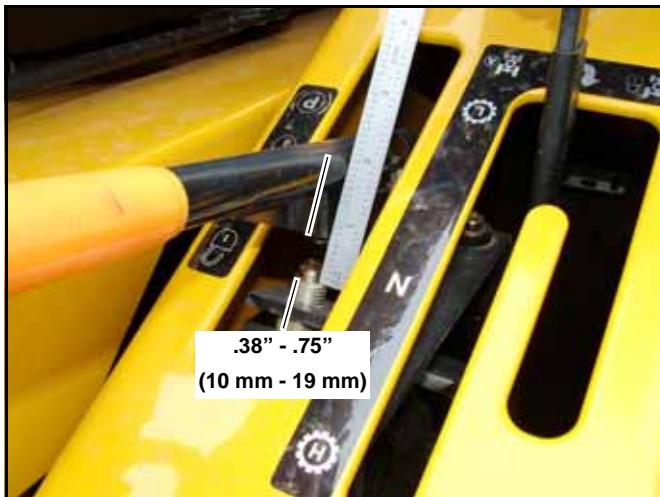

Figure 4-33
The park brake must be adjusted when there is less than 0.38 in. (10mm) or more than 0.75 in. (19mm) of free play in the park brake lever (Figure 4-33), the park brake is dragging, or the park brake is not working effectively.
2. Check the park brake lever free travel distance: With the park brake lever all the way down (Off), pull the lever up until you notice resistance from brake engagement - measure this distance as shown in Figure 4-33. This free play distance should be 0.38 in. (10mm) to 0.75 in. (19mm).